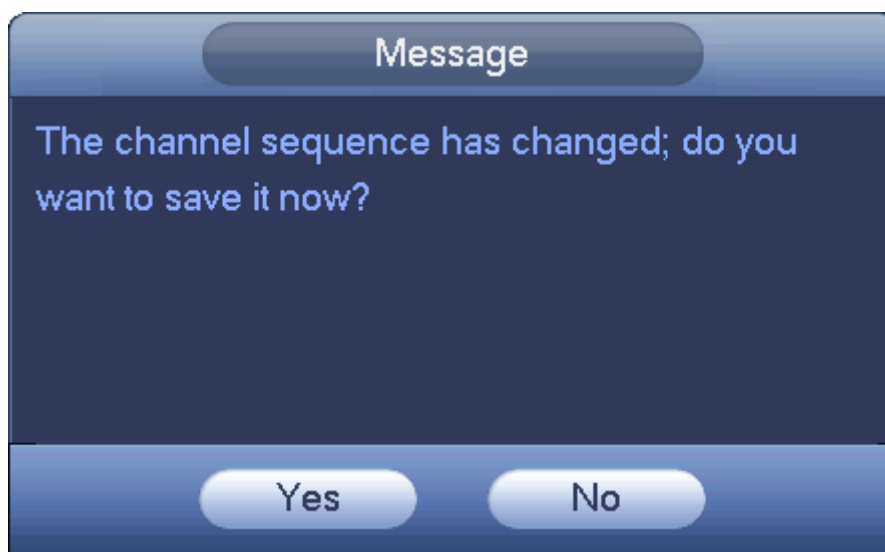

Figure 4-73
- After you change the channel sequence, click Cancel button or right click mouse, device pops up the dialogue box. See Figure 4-73.